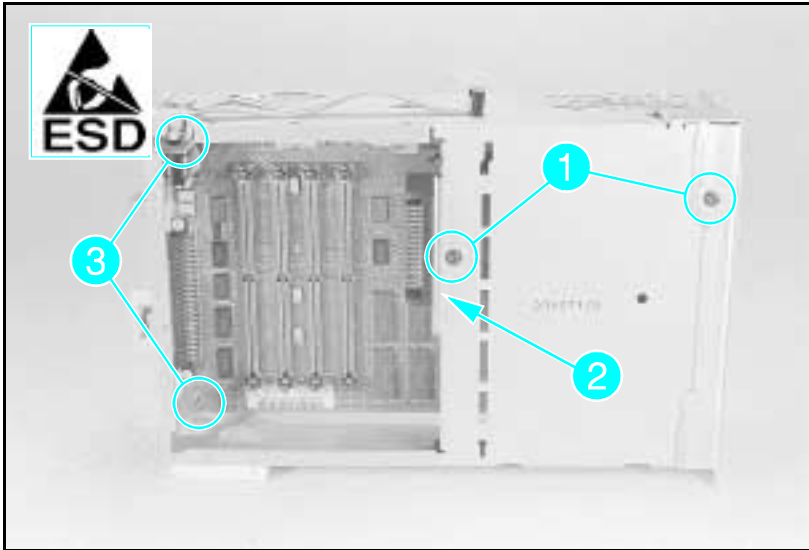

Figure 6-25a **Formatter Cover and PCA Mounting Screws (LaserJet 4)**
- 2 Remove the (2) black screws from the side of the Formatter Cage (see Figure 6-25a, callout 1).
- 3 Remove the MIO Connector Support Bracket (see Figure 6-25a, callout 2).
- 4 Remove the (2) Formatter PCA mounting screws (see Figure 6-25a callout 3).
- 2 Remove the MIO Connector Support Bracket (see Figure 6-25a, callout 2).